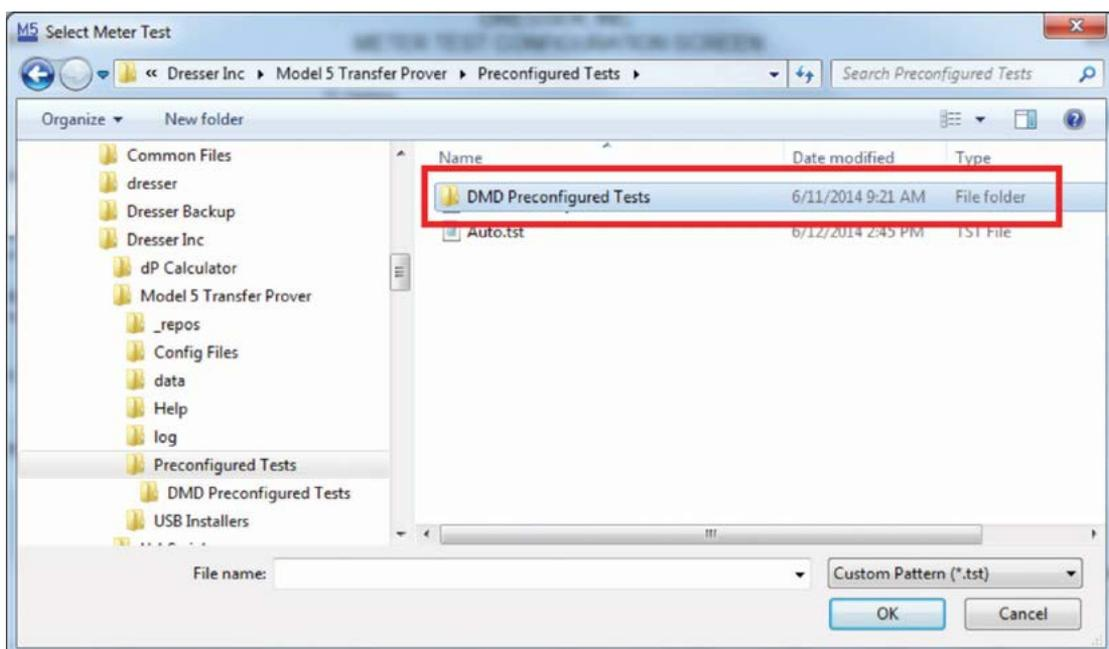

Figure 95: Select Meter Test Window
2. A new window will appear. In the smaller window entitled "Select Meter Test", select "DMD Preconfigured Test" as shown in **Figure 95**.